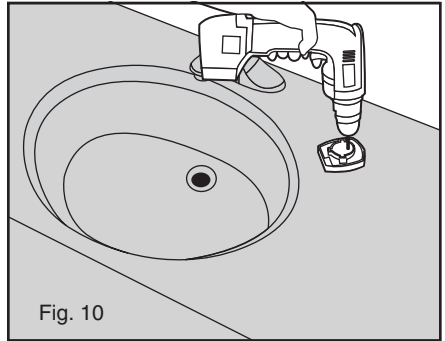

Fig. 10
- 11. **IMPORTANT** – Using a Phillips bit in a power driver, tighten at full speed the 2 screws on the support shaft until the plastic heads break away. Remove the remains of the white plastic heads from the support shaft (see figure 10).